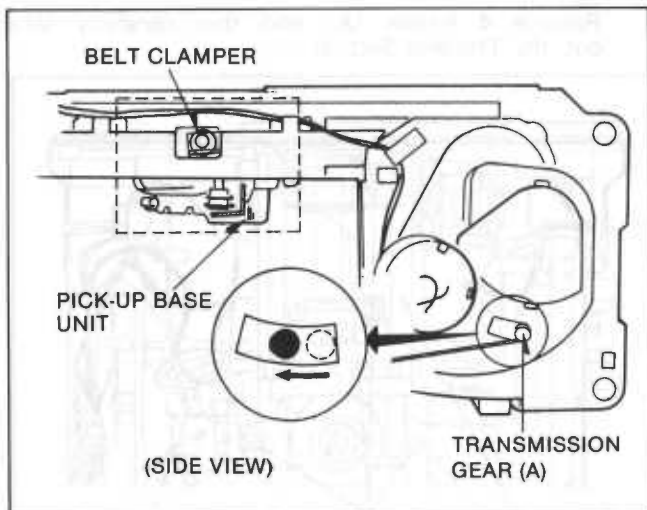

Fig. R16
To move a Forward Belt Pulley, move a Transmission Gear (A) to center position of Frame hole as shown in Fig. R16. Then install the Belt Clamper.
2. Install the Optical Pick Up Base Unit to Traverse Unit and then move a Optical Pick Up Base Unit and Belt Clamper by rotating the Belt Pulley so that hole of Optical Pick Up Base aligns with hole of Belt Clamper as shown in Fig. R16.